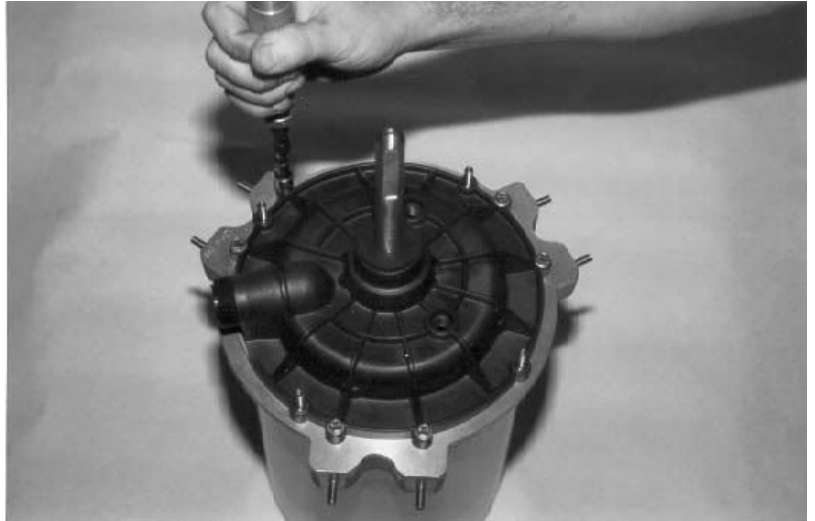

Figure X-1 Removal of (6) retaining nut bolts from the motor base plate.
A. Using a 5/16" nut driver, remove the 6 S/S retaining bolts (Fig. X-1).